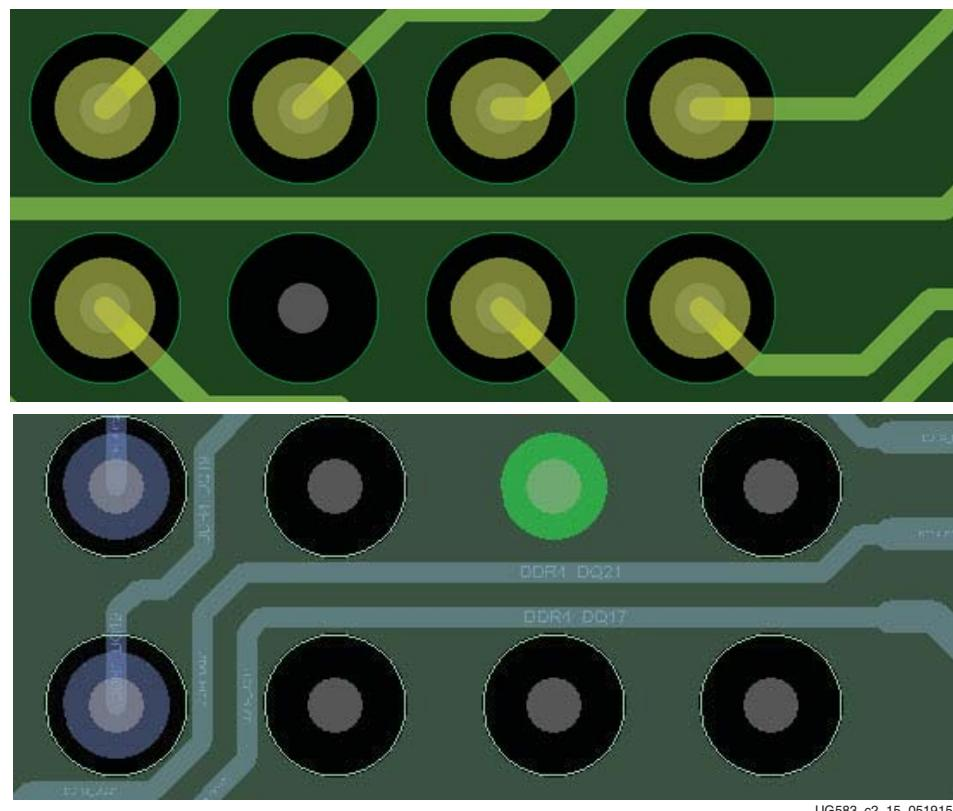

Figure A-4: Breakout Region Routing
9. In the breakout region, route signal lines in the middle of the via void aperture. Avoid routing at the edge of via voids (Figure A-4).